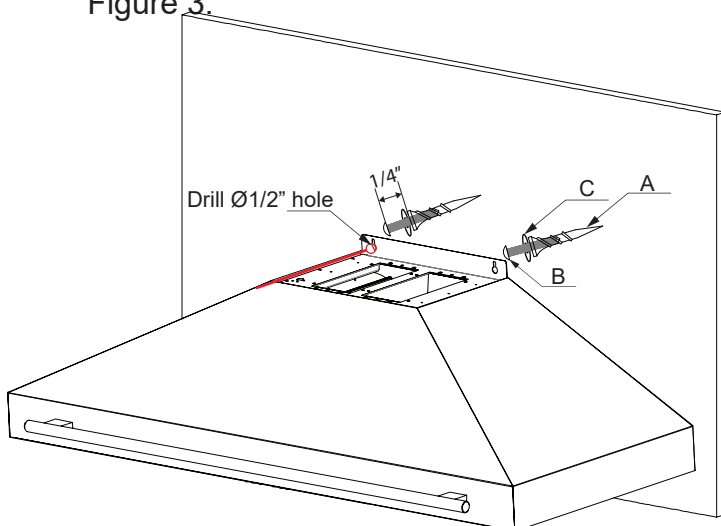

Figure 2.
- Remove the hood and drill $\frac{1}{2}$ " (0.50") holes at the marked points to fit the $\Phi 0.51$ " spiral plastic expansion anchors (A). See Figure 2.
- Insert anchors (A) into the drilled holes until fully flush with the wall.
- Position flat washers (C) over the mounting holes.
- Drive the #6-32 \times 1-3/8" pan head screws (B) through the washers into the anchors.